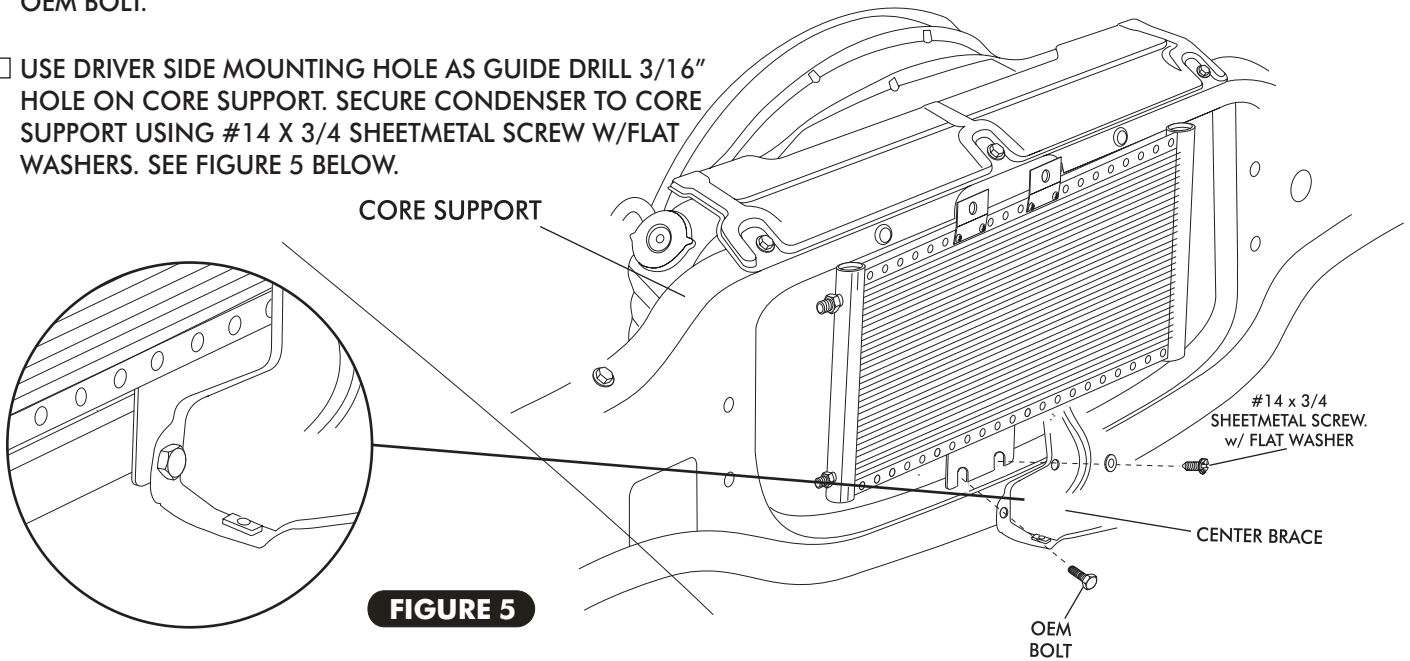

FIGURE 5
- USE DRIVER SIDE MOUNTING HOLE AS GUIDE DRILL 3/16" HOLE ON CORE SUPPORT. SECURE CONDENSER TO CORE SUPPORT USING #14 X 3/4 SHEETMETAL SCREW W/FLAT WASHERS. SEE FIGURE 5 BELOW.